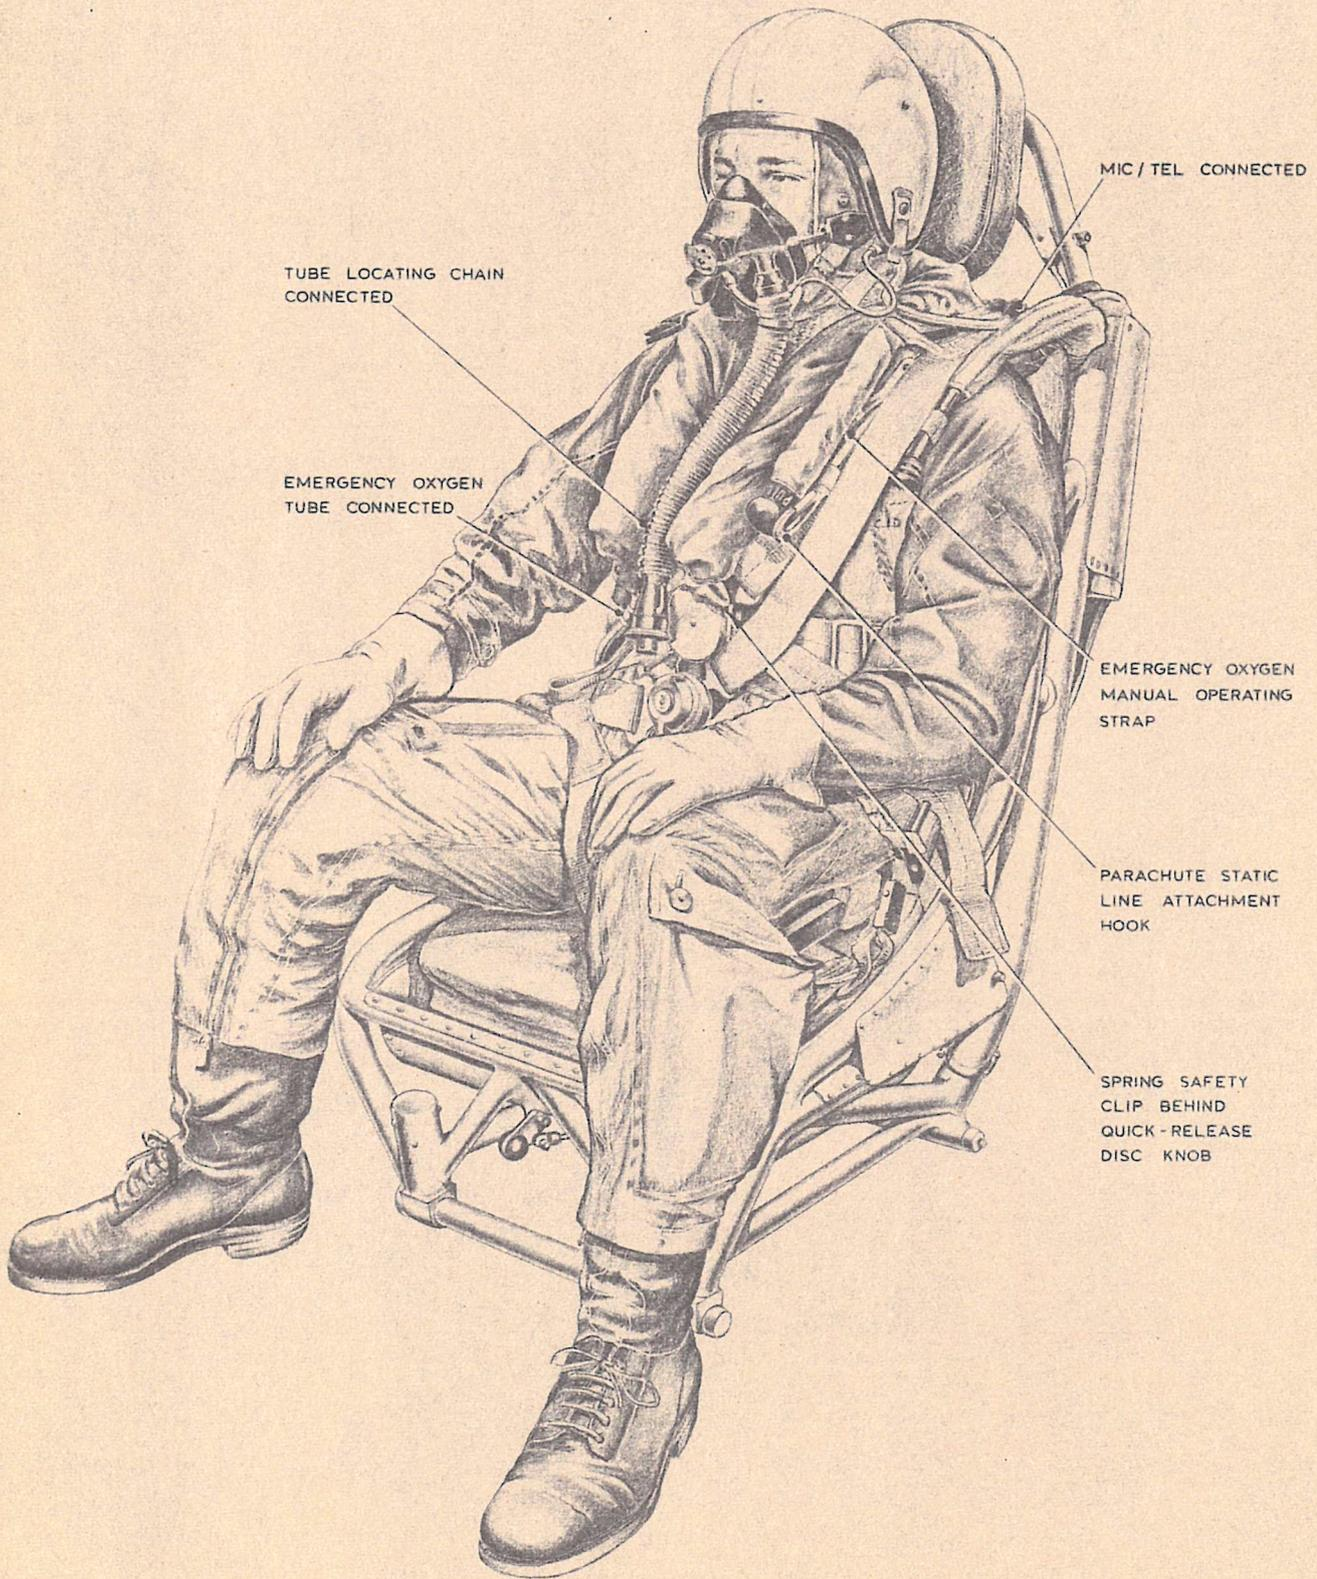

Fig. 8. The static seat occupied
22. Strapping-in procedure for each rear crew member is the same and is as follows; refer to *fig. 8* for detail: -